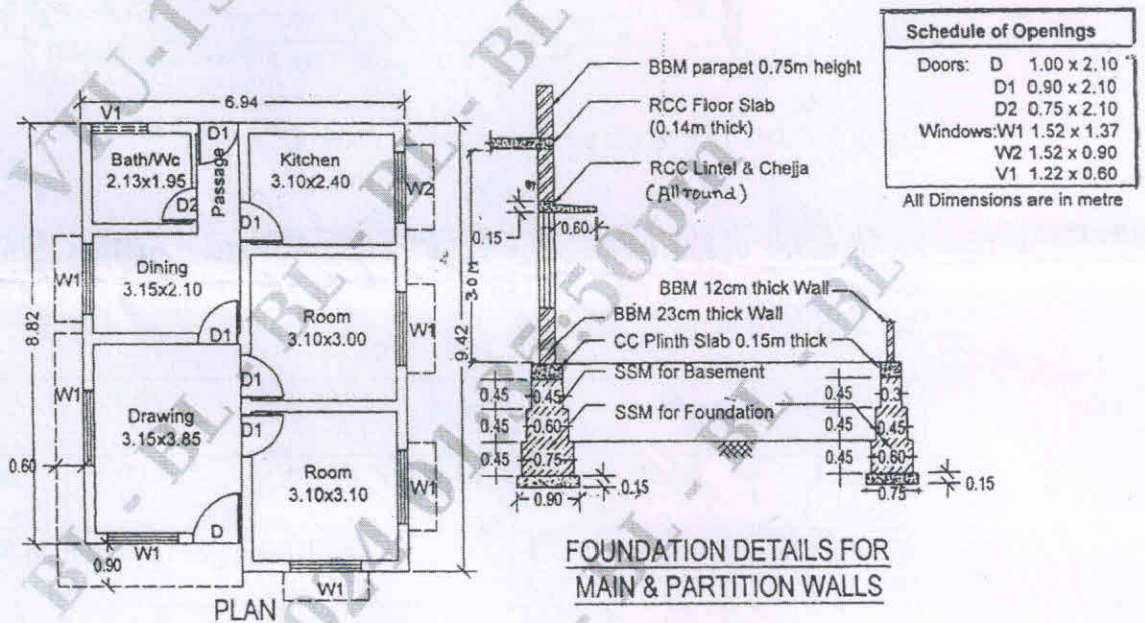

Fig.Q.1
- 1 Prepare a detail estimate for a residential building shown in Fig.Q.1 for the following items of work: